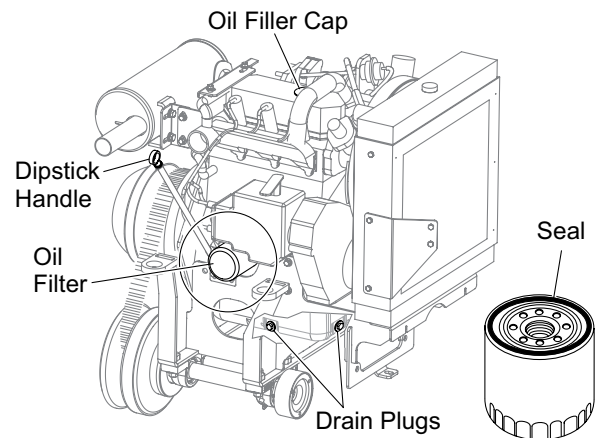

Figure 14. Oil Filter Replacement
1. Replace the engine oil filter (Figure 14) every other oil change or 300 hours. Refer to your engine manual for specific details to perform this operation.
2. Be sure to coat the seal (Figure 14) of the new oil filter with clean engine oil.